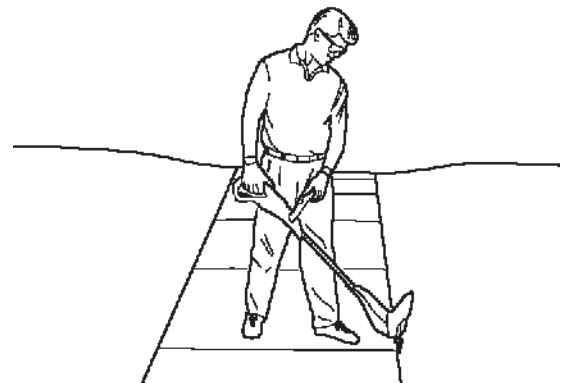

Fig. 14
8. **OPERATING AS AN EDGER** (Fig. 14). With the unit configured as an edger, hold it so the motor is to your left side so that debris is thrown to the rear. Always use eye protection.